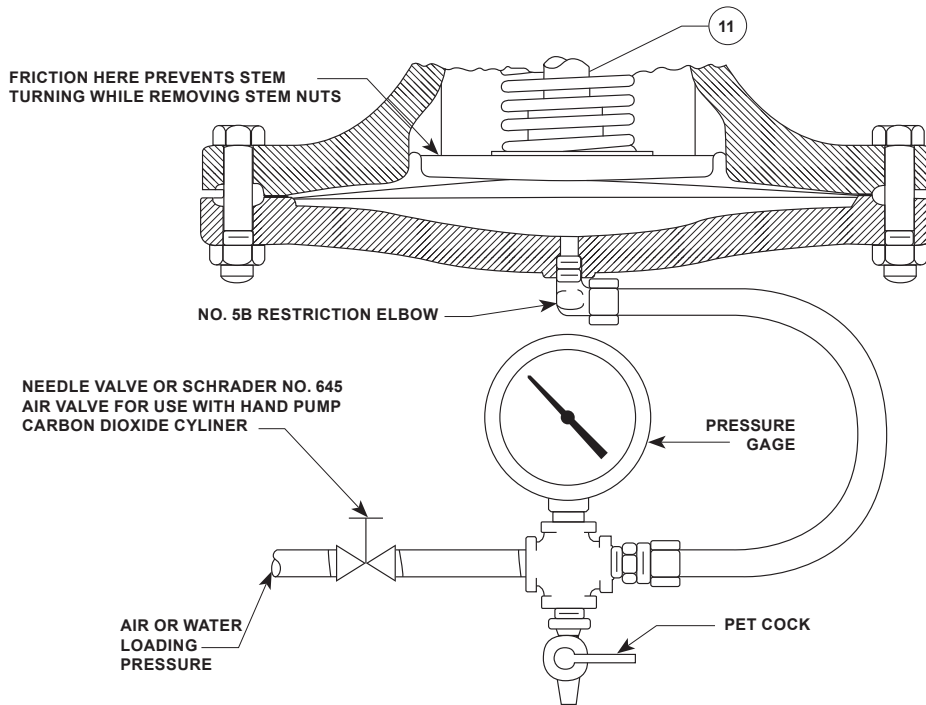

Figure 4. Air Loading Arrangement for Removing Stem Nuts
3. Connect a source of air (water, steam) pressure which can be adjusted by hand to the underside of the diaphragm as shown in Figure 4.
4. Apply 50 to 60 psi / 3.45 to 4.14 bar to Type E, 10 psi / 0.69 bar to Types E2 and E5 to jack the valve wide open. The friction of the pressure plate against the stops in the base will prevent the stem (key 11) from turning while removing the stem nuts.